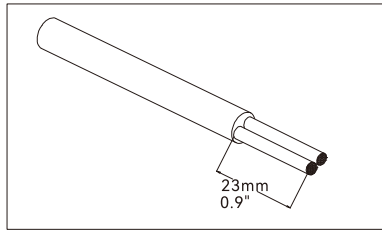

Figure 2
2. Assemble cable boot (Fig. 2, 3, 4)
- Strip the outer cable jacket 0.9" (23mm) (Figure 2).
2. Montar a capa do cabo (Fig. 2, 3, 4)